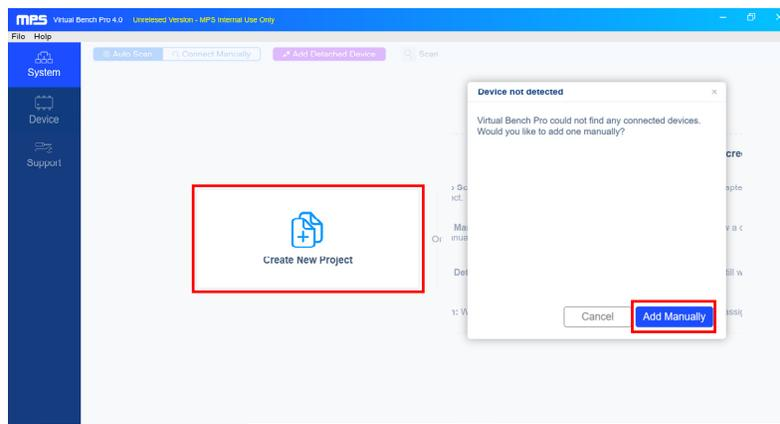

Figure 4: Create New Project in Virtual Bench
- Select “Create New Project” and “Add Manually” (see Figure 4).